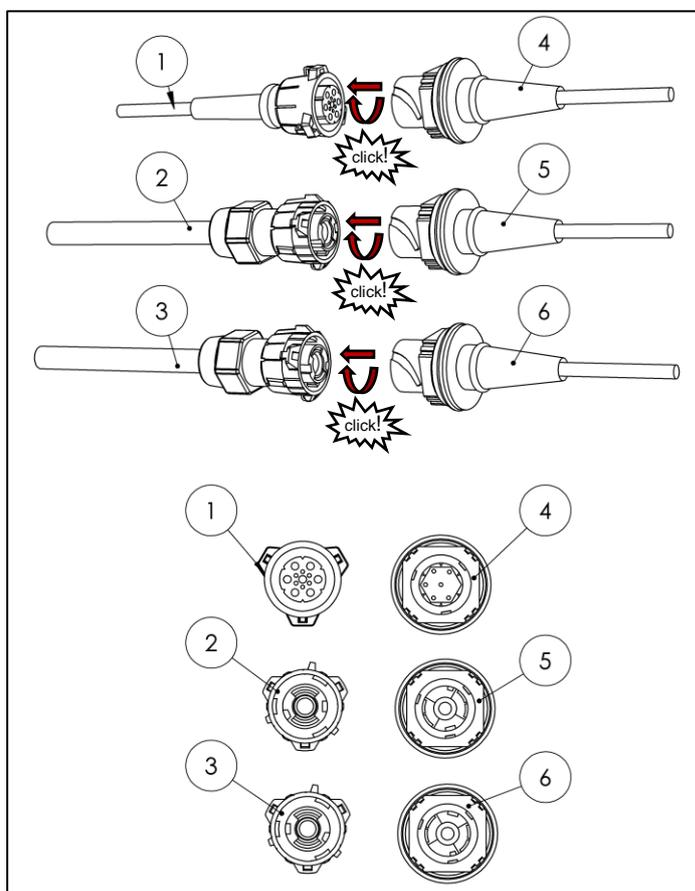

Fig. 51
- Connect the power cable and the cable for the cabin switch unit to the sockets provided (see Fig. 51).